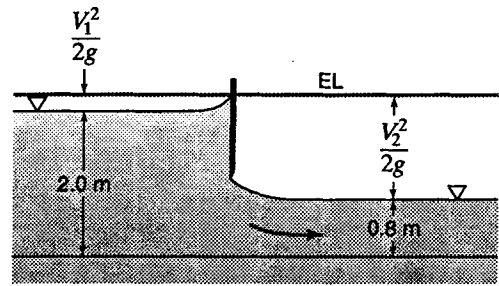

Figure S5.12
5.14.3 Refer to Fig. S5.12. Suppose the gate opening is set so the depth downstream is 2.0 ft. Find the upstream depth under these conditions if the flow rate is 45 ft³/sec per ft of width. Assume no head loss.